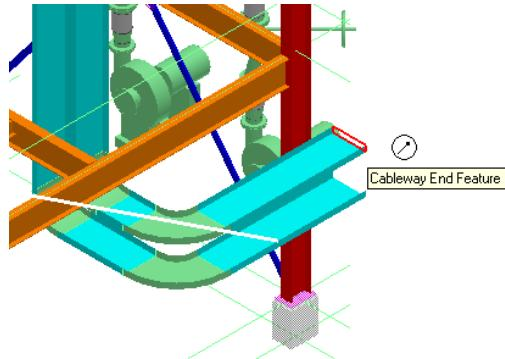

Figure 15: Selected End Feature of Top Tray
4. The system prompts for a position on the cableway for **Entry Point**. Select the **End Feature** of the top tray, as shown in Figure 15.